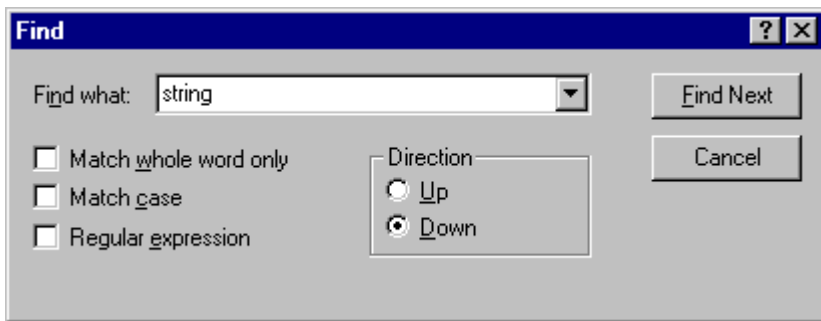

Figure 4.2: Find Dialog
3. Select [**Edit->Find...**], press **CTRL+F**, select [**Find...**] from the editor window's local menu or click the find toolbar button (🔍). The “Find” dialog box will be displayed *MERGEFORMAT (figure 4.2).